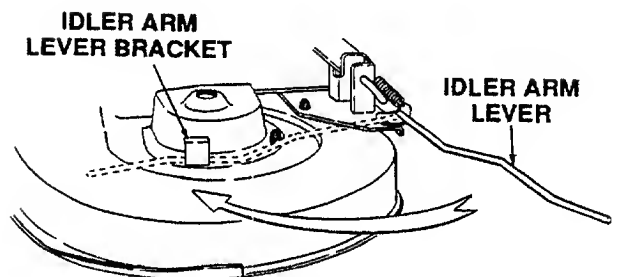

Figure 57
15. Engage the deck idler arm lever into its stop bracket to provide tension on the PTO belt. (Refer to Figure 57.)